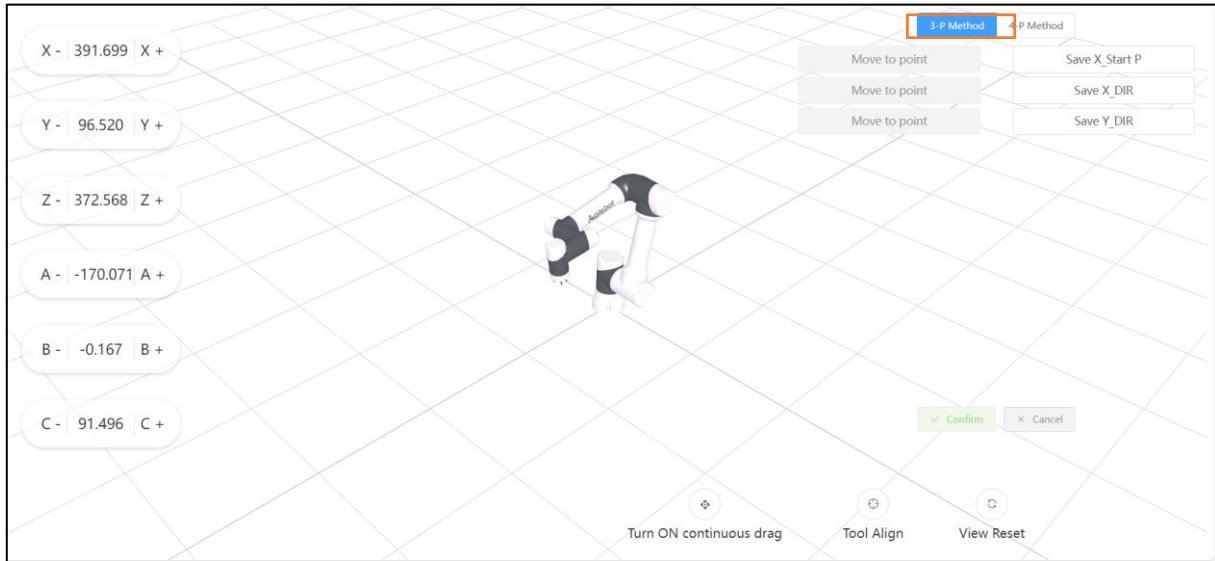

Fig. 2.23 3P Setting Window
- 2) Record the poses according to the description of the 3P/4P method. After all points are recorded, the user coordinate system can be automatically calculated, as shown in Fig. 2.23 "3P Method"/2.24 "4P Method".